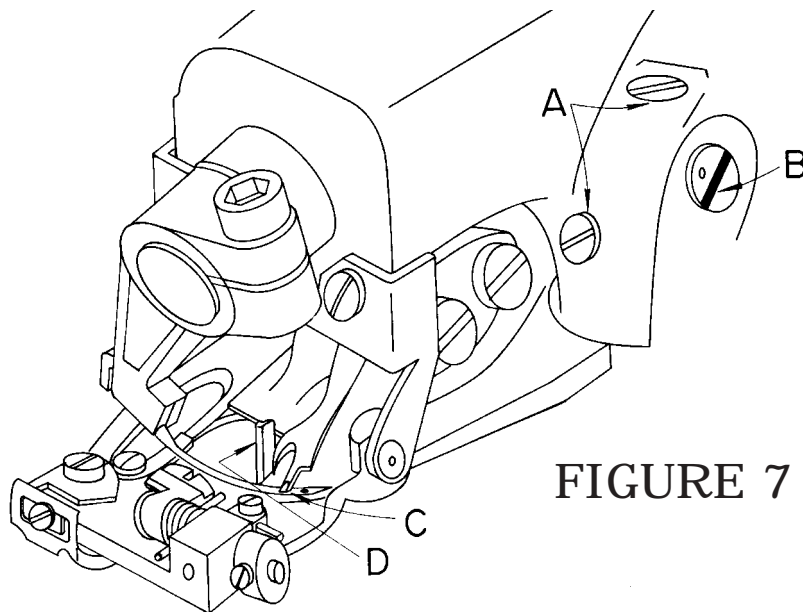

FIGURE 7
2. Any time a looper is moved or changed, recheck the looper timing and reset if necessary. Proper looper timing is absolutely essential for correct stitch formation. As described in detail below, a properly timed looper will pass over the needle in the correct position to pick up the loop, and also clear the chain-off pin, feeder, looper slot, and needle. The first check point for timing the looper is at the position where the looper picks the thread loop off the needle during the needle return stroke. Referring to **Figure 7, (Point "C")**, the long prong of the looper should pass over and just clear the scarf of the needle, approximately $3/32"$ (2.4mm) behind the end of the needle eye. At the same time, the short prong of the looper should pass over the needle with about $1/64"$ (.406mm) clearance, and must be set that it also clears the chain-off pin (**item "D" in Figure 7**).
5. If, after completing the above adjustments, it is found that the looper is either too low or too high, it will be necessary to adjust the eccentric stud. First loosen the two set screws (**item "A" in Figure 7**). Place a wide blade screwdriver in the slot of the eccentric stud (**item "B" in Figure 7**) and, using a slight turning motion, raise or lower the looper as required. Once the proper height is established, check to see whether the looper must be moved to the left or to the right prior to retightening the eccentric block set screws. If such a movement is required, it may be obtained by lightly tapping the eccentric block in the correct direction with the handle of a screwdriver.
1. After considerable service, it may become necessary to replace the chain off pin, (*Item "D" in Figure 7*).